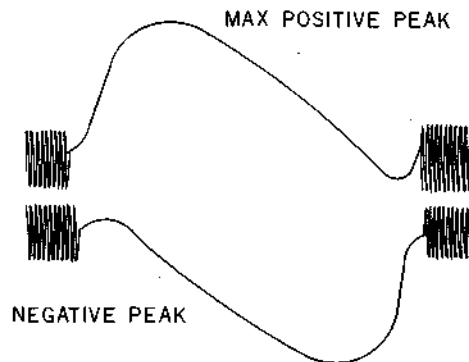

Fig. 3-2-3 "S" Curves at Peak
- (4) Turn the bottom core of IFT₃₀₁ to obtain maximum response.
- (5) Detune the top core in both directions to obtain maximum positive and negative output as shown in Fig. 3-2-3. Adjust R₃₁₉ (5k-B), the DC Balance, to obtain equal response when the core is peaked to provide either maximum negative or maximum positive output as shown in Fig. 3-2-3.